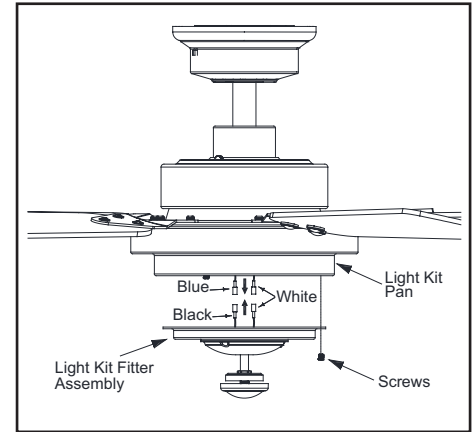

Figure 16
1. Remove one screw from the light kit pan and loosen, but do not remove the other two screws. Connect the wires from the light kit fitter assembly to the wires from the fan motor assembly by connecting the molded adaptor plugs together. Carefully tuck all wires and splices into the switch cap. (Figure 16)
2. Push the light kit fitter assembly up so that the two loosened screw heads fit into the keyhole slots. Turn the light kit fitter assembly clockwise, tighten the screws. Re-install the screw that was removed in step 1 and tighten firmly. (Figure 16)